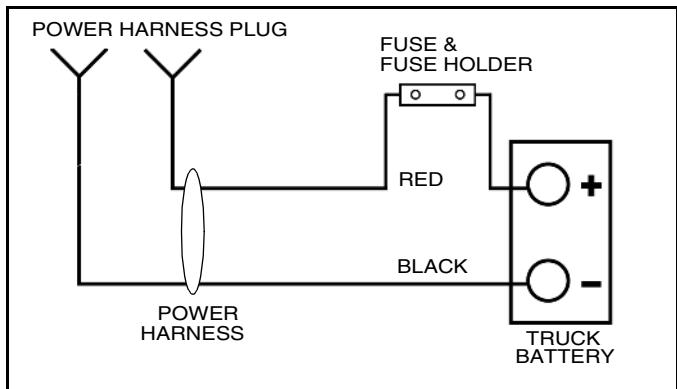

Figure 1-12
4. Mount the fuse holder near the battery using (2) #10 x 1" self-tapping screws.
- Take the cover off of the fuse holder. Place the end of the 6 in. long power wire with the small ring terminal on one stud. (See Figure 1-12).